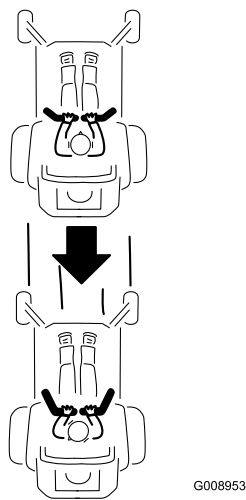

Figure 16
- 2. To go backward, look behind you and down, as you slowly pull the motion-control levers rearward (Figure 16).
To go straight, apply equal pressure to both motion-control levers (Figure 16).